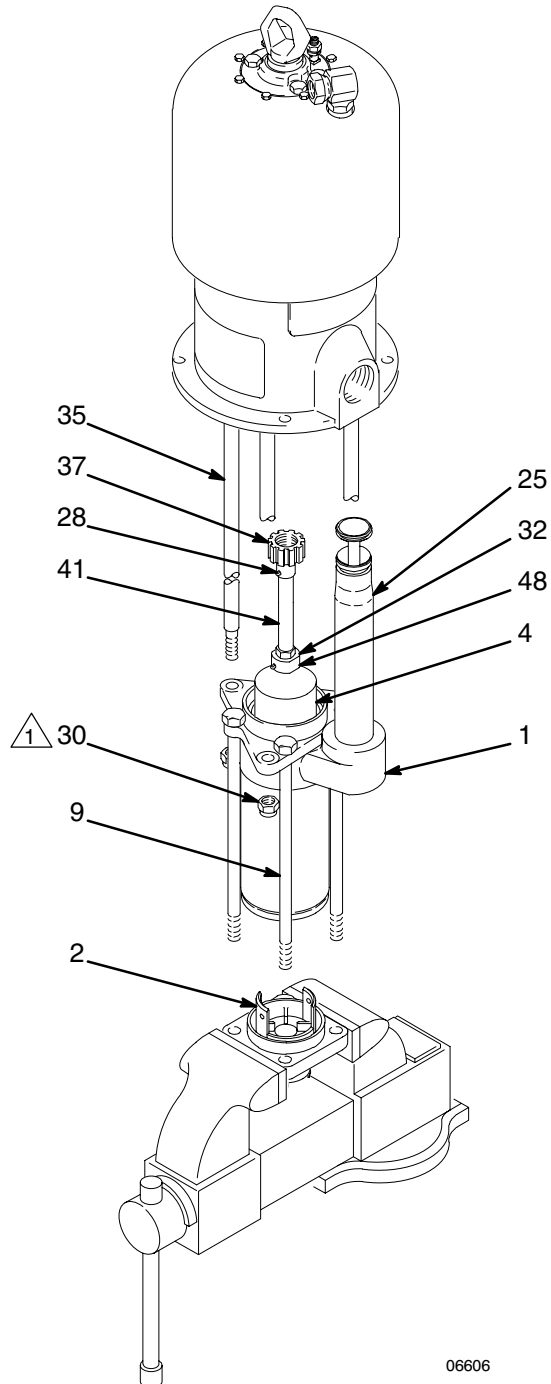

Fig. 4
3. Remove the upper cotter pin (28) and unscrew the connecting rod coupling nut (37) and three tie rod locknuts (30). See Fig. 4. Detach the displacement pump from the air motor. The riser tube (25) slides out of the air motor as the pump is detached.
4. Remove the lower cotter pin (28), loosen the locknut (32), and unscrew the connecting rod (41) from the displacement rod (4)
1. Clamp the displacement pump intake valve upright in a vise as shown in Fig. 4.
2. Unscrew the four tie plate bolts (9) from the intake valve housing (2) and lift the rest of the pump off the valve.